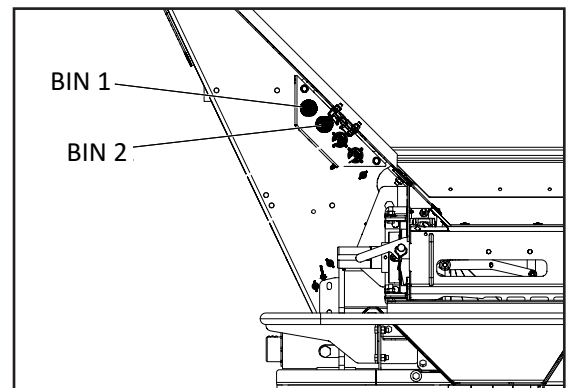

Figure 1B
3. Figure 1B - Disconnect Endgate harness at rear electrical bulkhead. Uncap all necessary receptacles.